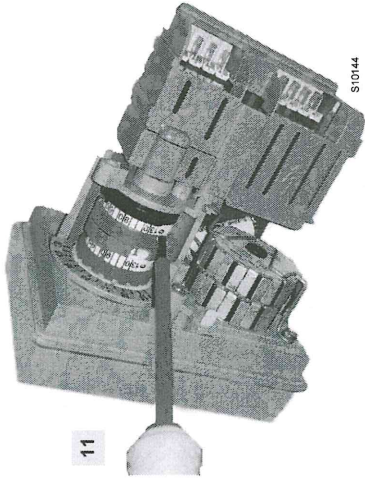

Fig. 4
▲ If it is necessary to adjust cam III, use the screwdriver 11)(Fig. 4).
- 11 Screwdriver for adjusting cam III (Fig. 4)